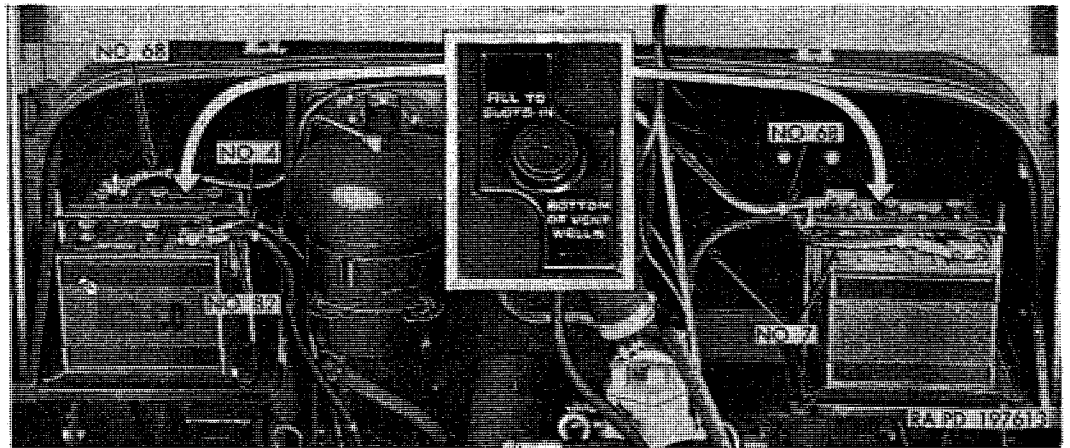
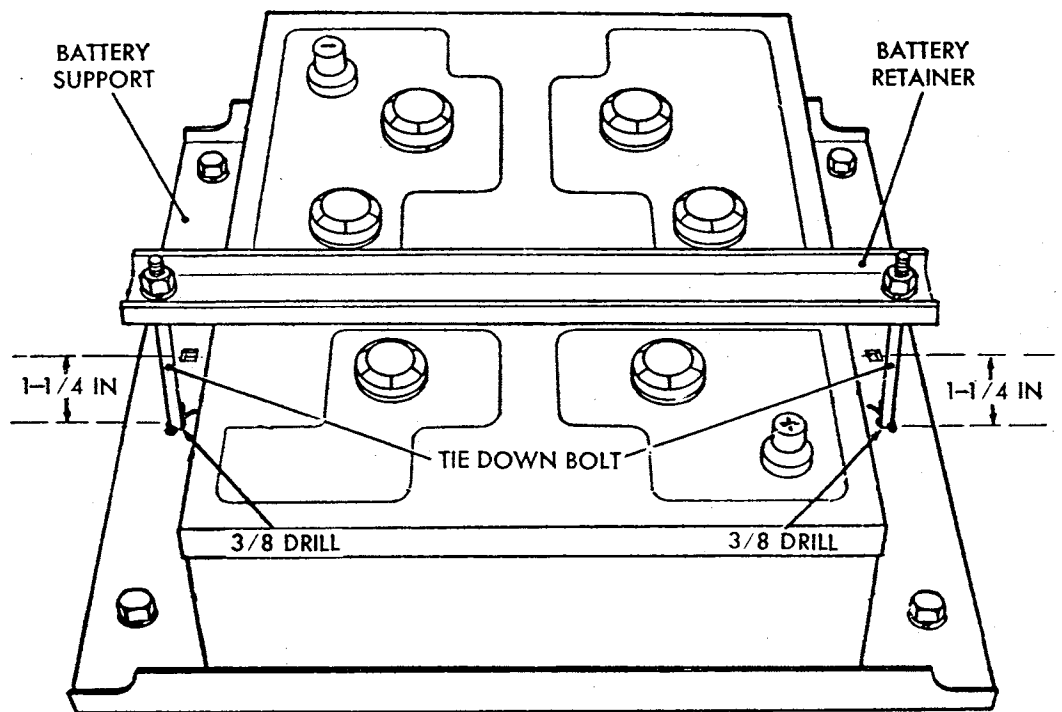
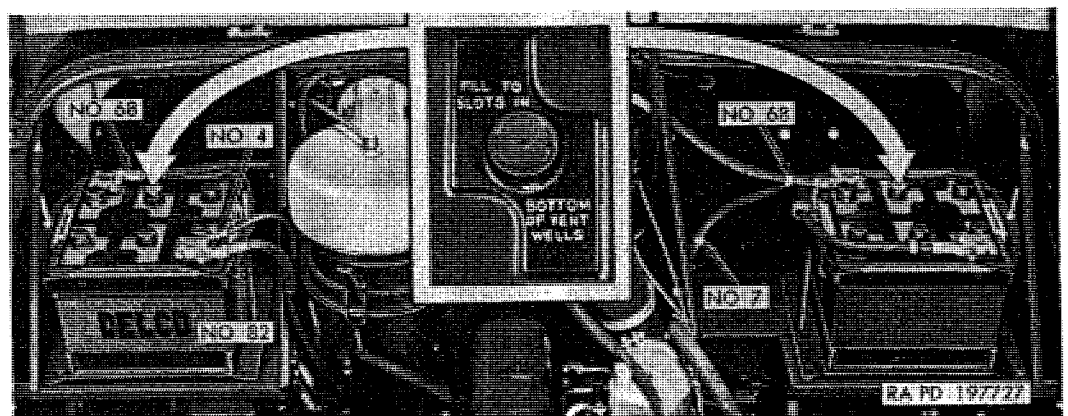

Figure 154. Batteries installed (early type retainer).
Figure 155. Relocation of tie down bolts for installation of other make batteries.
Figure 156. Batteries installed (late type retainer).
b. Batteries (figs. 154 and 156). Two 12-volt batteries are connected in series to provide 24-volt electrical current for operation of vehicle electrical system. Batteries are submersible-type with special cell vent plugs which prevent entrance of water into battery cells. Batteries are mounted on engine side of cowl, one at each side, and are accessible after raising hood. Negative (−) terminal of left battery is grounded on dash. Positive (+) terminal of left battery is connected to right battery negative (−) terminal by a waterproof cable No. 68. Regulator-to-battery cable No. 4, starter cable No. 82, and slave battery receptacle cable No. 49 (when used) are connected to right battery positive (+) terminal.
- (1) *Specific gravity.* Using an accurate reading hydrometer, check specific gravity of electrolyte in each cell of both batteries. A fully charged battery should test between 1.275 and 1.290 at 80° F. Refer to paragraph 371 for extreme hot weather correction, and to paragraph 370 for extreme cold weather maintenance. If specific gravity is less than 1.225, battery should be recharged (*e* below) or replaced with a fully charged battery.
- (2) *Cell voltage.* Due to the sealed construction of submersible-type batteries, cell voltage tests cannot be made.
d. Filling. Instructions on top of each battery read: **FILL TO SLOTS IN BOTTOM OF VENT WELLS** (figs. 154 and 156). The battery cell covers are molded with long, circular, tapered vent wells which extend below the inside surface of the cover to the proper electrolyte level. A narrow slot is molded into the side-wall of each vent well. As water is added to the cell, the surface of the rising liquid contacts the slotted lower end of the vent well, causing a distortion of the reflecting surface which is readily discernible. Add pure (preferably distilled) water to each cell as required to bring electrolyte level up to bottom of vent wells. Refer to paragraphs 370 and 371 for battery service instructions under extreme cold or extreme hot weather conditions.
- (1) If the specific gravity of electrolyte in batteries in storage drops below 1.225, charge at a rate of 5 amperes. Do not discontinue charging until the specific gravity is at least 1.270 at 80° F.
- (2) Sometimes batteries will become discharged to a specific gravity approaching 1.000 because of the low ratio of acid to material, because of damage resulting from short circuits, and from extended storage. When this condition exists, it sometimes becomes more difficult to charge these batteries by standard methods than other type batteries. The recommended procedure is to charge these batteries at a rate of 3 to 5 amperes and continue charging until the batteries are fully charged. This may sometimes require as much as 96 hours. If any cell does not accept a satisfactory charge under these conditions, proceed as in (*a*) or (*b*) below.
- (3) If batteries are allowed to remain in an uncharged condition (sp-gr 1.110 or lower), the plates may sulfate. When this condition occurs it may be necessary to keep the battery on charge as long as 144 hours before it is fully charged.
- (4) Charging rate for sulfated batteries will be similar to that indicated in (2) above.
- (5) A constant potential, low voltage charging system is not suitable for reducing sulfation in batteries. A 110 volt, dc charging current regulated to a maximum rate of 5 amperes is recommended for batteries in this condition. Care must be exercised that cells do not gas excessively or reach electrolyte temperatures exceeding 110° F. For charging batteries when in a serviceable condition (not sulfated), the constant potential charger is satisfactory. It is recommended, however, that when battery temperature is below 50° F., the charging circuit be adjusted to obtain 15.4 volts at the battery terminals. For battery temperature above 50° F., a potential of 14.8 to 15.0 volts is sufficient.
f. Battery Mounting. On some vehicles, batteries are retained on battery supports by a channel-type retainer which extends across top of battery between cell vent plugs and bears against the battery lifting handles as shown in figure 154. When replacing the original Delco battery with an Exide or Willard battery, it is necessary to relocate the tie down bolts and retainer as shown in figure 155, due to the different arrangement of the cells on these batteries. On other vehicles, battery retainers shown in figure 156 are used; this type retainer permits installation of other make batteries without any modification.
g. Battery Replacement. Instructions which follow cover removal and installation of either the right or left battery of both type installations are shown in figures 154 and 156.
- (b) Install battery retainer over tie down bolts. On early type retainer (fig. 154), make sure battery lifting handles are positioned vertically against ends of battery to prevent channel-type retainer from resting on top of battery. Install a $\frac{5}{16}$ -inch lockwasher and a $\frac{5}{16}$ -18 nut on each tie down bolt and tighten.
- (c) Clean battery posts and inside of terminals, install terminals on battery posts, and tighten terminal clamp bolts. If cables were disconnected from terminals, refer to figure 154 or 156 for number identification of cables connected to each terminal. If slave battery receptacle (fig. 144) is used, cable No. 49 (not shown in figure 154) also connects to positive (+) terminal of right battery. After tightening terminal clamp bolts, coat terminals with grease to retard corrosion.